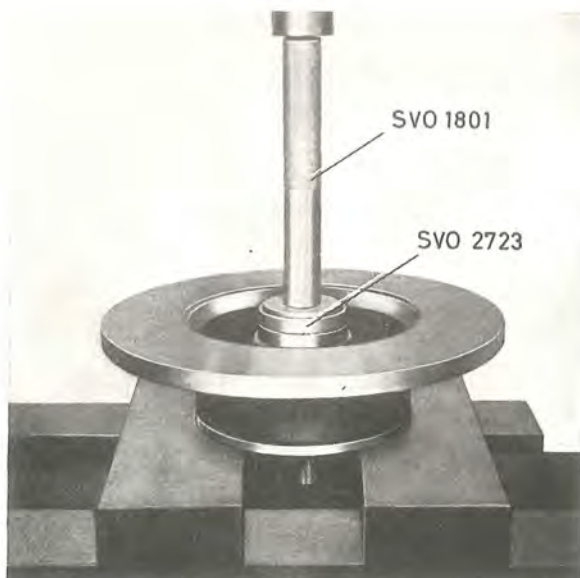

Fig. 6-20. Fitting the oil seal
1. Place the inner bearing in position in the hub and press in the oil seal with tool SVO 2723 and standard handle tool SVO 1801. See Fig. 6-20.